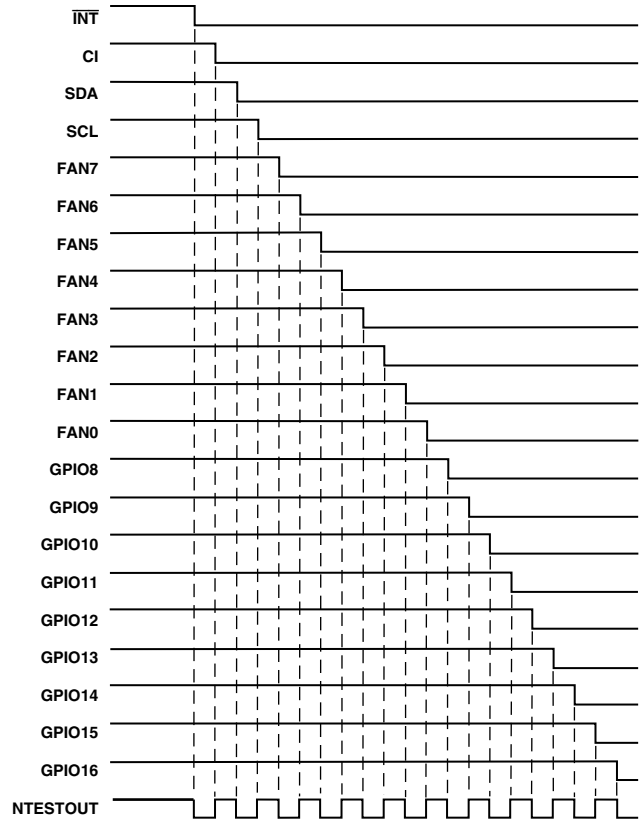

Figure 27. NAND Tree Test taking Inputs Low In Turn
2. Start with all inputs high and take them low in turn, starting with the input furthest from NTEST_OUT ($\overline{\text{INT}}$) and working down the tree to the input nearest to NTEST_OUT (GPIO16/THERM). This should give a similar output pattern to Figure 27.